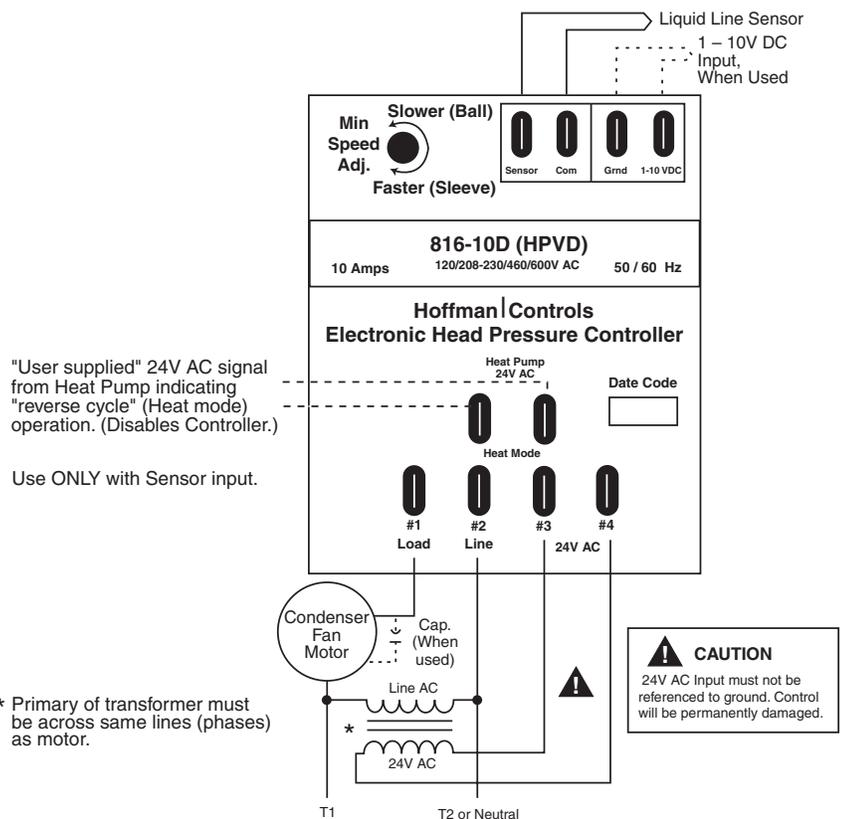

Figure 5 Wiring for 816-10D (HPVD)
- See Figure 5 for Heat Pump and V DC input applications.